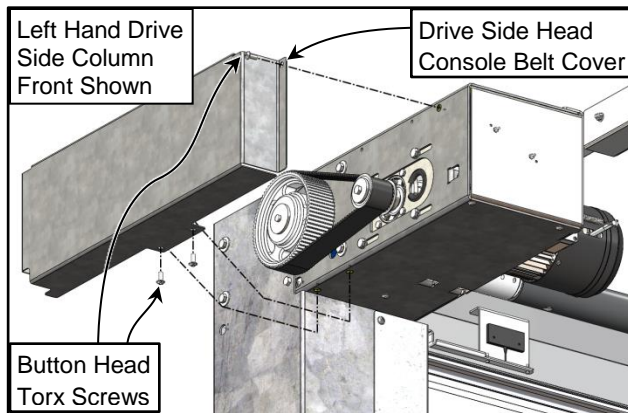
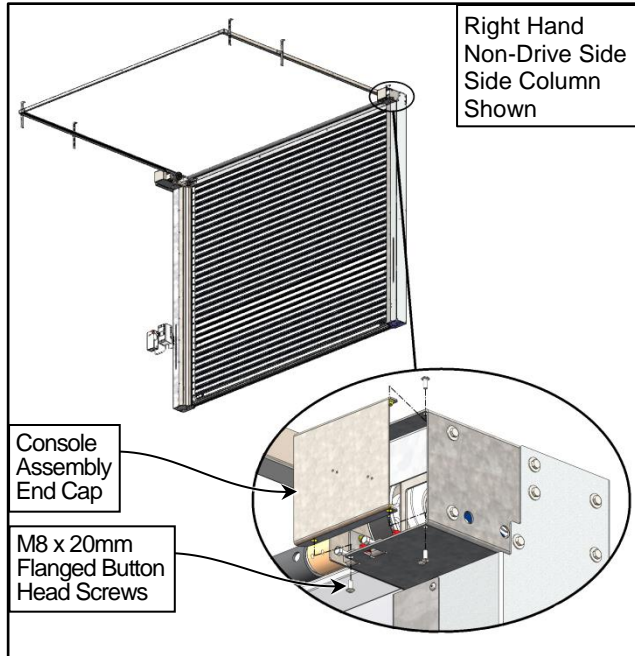

Figure 26
Figure 40
3. Remove the covers from both the head console assemblies. Each is held in place by Button Head TORX® screws. (See Figure 26 & Figure 40)
Remove the drive side console assembly belt guard if you haven't already done so. (See Figure 26)
4. Remove the associated end cap cover from the head console assembly to expose the upper end of the spring strap. Each end cap is held in place with (3) M8-20mm long, Button Head TORX® screws. (See Figure 40)